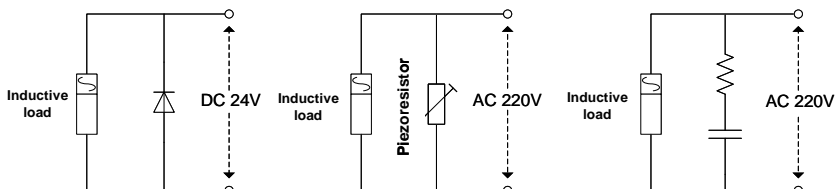

Fig.3-5 Application of inductive load surge suppressor
- ◆ When the Asynchronous servo drive is connected to the inductive load equipment (e.g. electromagnetic contactor, relay and solenoid valve), surge suppressor must be installed on the load equipment coil, as shown in Fig.3-5.